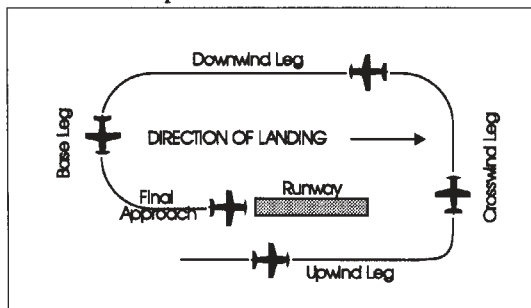

FIG 4-3-1
c. The following terminology for the various components of a traffic pattern has been adopted as standard for use by control towers and pilots (See FIG 4-3-1):